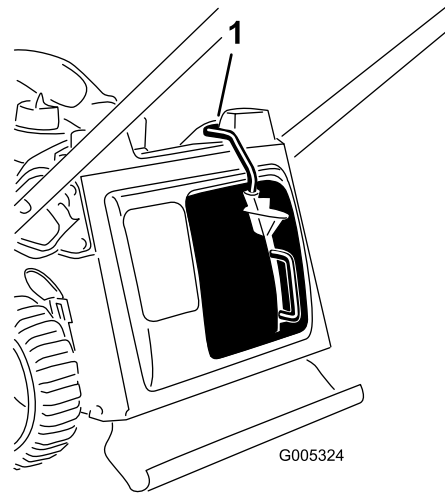

Figure 24
**Important:** The mower has a safety switch that prevents you from starting the mower unless you first install the mulch plug securely on the mower (Figure 24).
Install the mulch plug as illustrated in Figure 24.